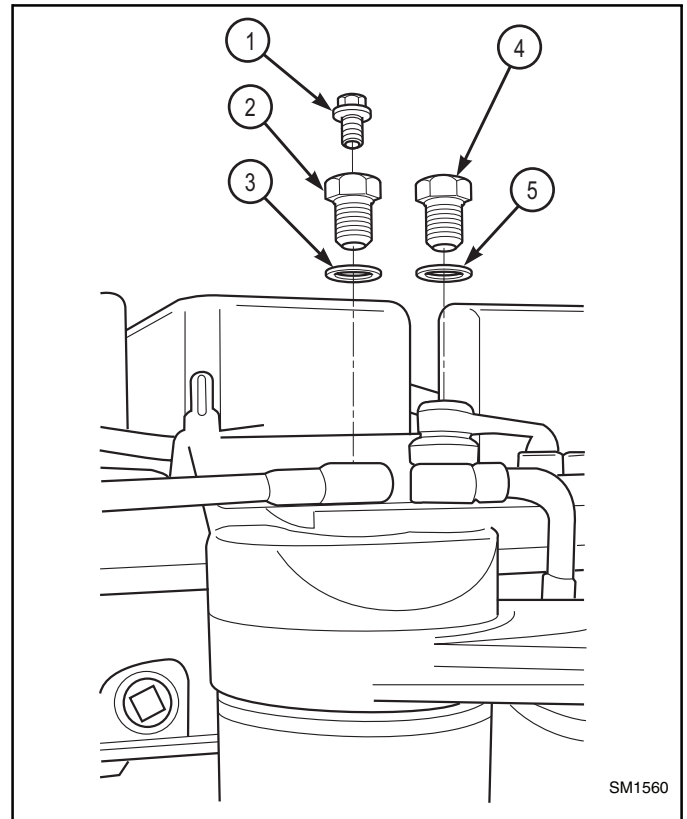
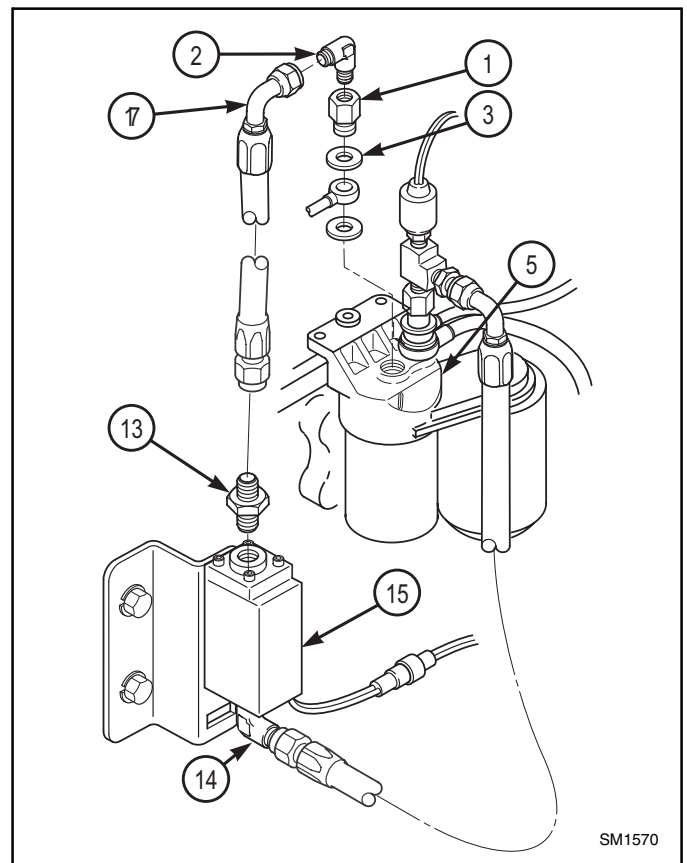

Figure 5
Figure 6
#### REMOVAL (Figure 5)
- a. Install washer (3) see removal (Figure 5) and (from the kit) the banjo inlet screw #6618322 (1) in the fuel filter system (5) of the new engine block. (Figure 6).
- b. (From the kit) apply sealing compound to threads on elbow #8760220 (2) and install on banjo inlet screw (1). (Figure 6).
- g. Apply sealing compound to threads of elbow (14) (Figure 6) and adapter (13). (Figure 6)
- h. Install elbow (14) and adapter (13) on fuel differential pressure switch (15). (Figure 6).